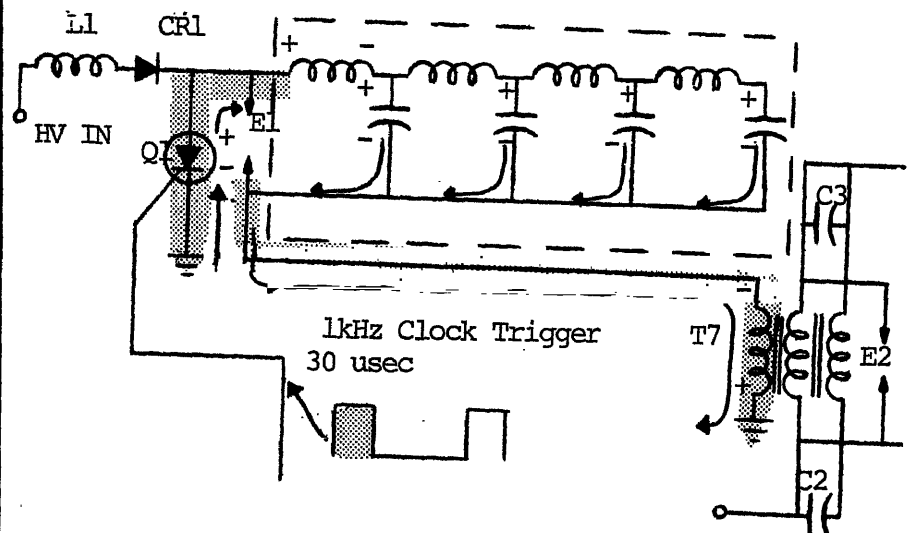

Figure 10: PULSE FORMING NETWORK DISCHARGE SEQUENCE
46. When the SCR (Q1) is triggered into conduction by the 1 kHz clock trigger, a discharge path for voltage stored in the PFN is formed. This discharge path is through the primary winding of T7, to ground, and up through the SCR to the opposite side of the PFN (shown at figure 10 by the shaded area).